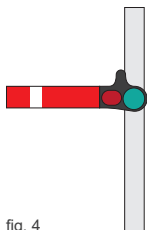
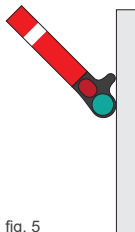

fig. 4
fig. 5
The examples above show the appropriate aspects for Upper-Quadrant signals (UQ), i.e. the signal arm raises into the upper quadrant of an arc in order to display its Clear aspect. Lower Quadrant signals are those that drop downwards but the meaning between each type is identical. For a Clear aspect (fig. 5), you should regard any indication that is at a 45-degree position and, for a Stop aspect (fig. 4), those indications that are at a horizontal position. Note that these signals are essentially only capable of displaying two aspects and you should regard them as such when considering speed and braking effort.